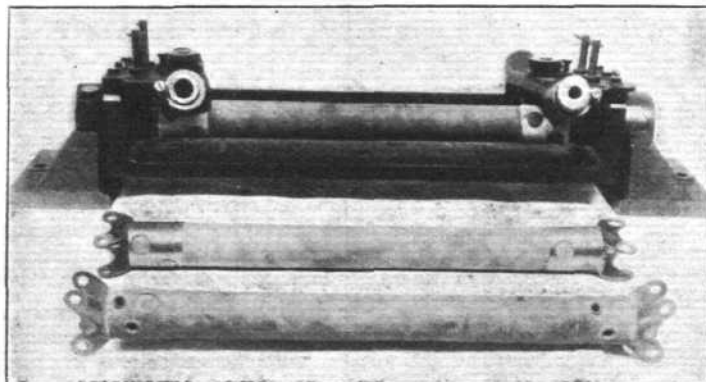
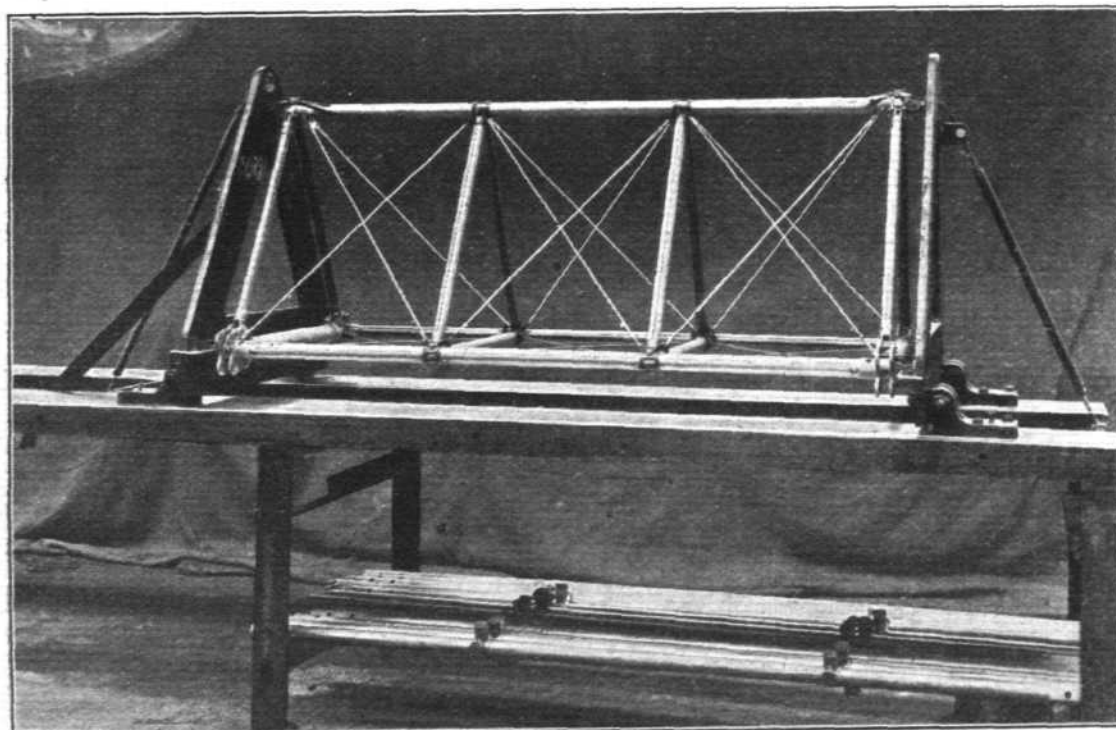
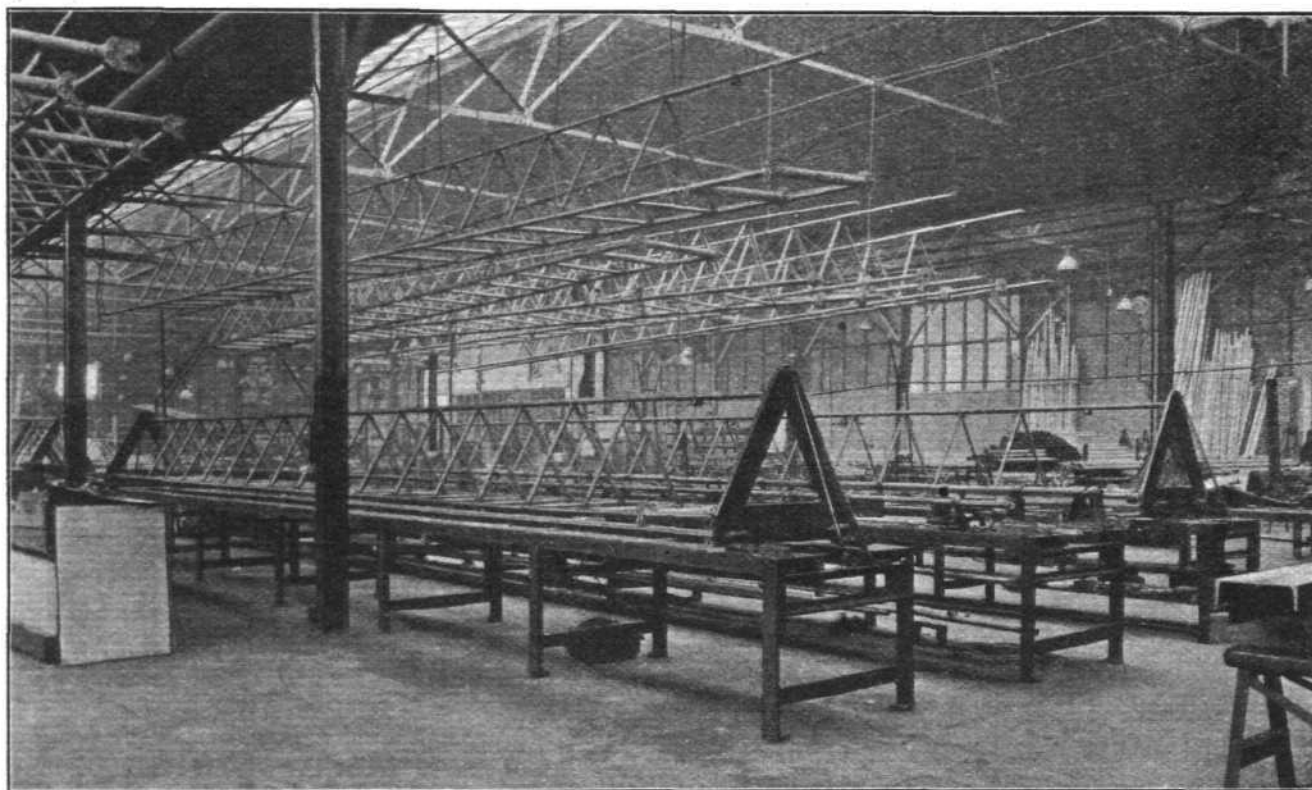

Fig. 19. Base struts for frame longitudinals. In jig, with fork ends loose, and with shear bushes in place.
Fig. 26. Assembly jig for frame longitudinals.
Fig. 27. General view of main longitudinal in jig. Other longitudinals ready for trueing.
**Base Struts.**—These occur at each end of the frame longitudinals, in the base of the triangle, and also form the third side of the triangle of which the other two sides are formed by the main radial struts. In other words, the base struts form the common base of the frame longitudinal triangle and the radial struts triangle. They can be seen in the photograph of the assembly jig for frame longitudinals (Fig. 26), and in more detail in Fig. 19, which shows one of the struts with fork ends loosely in place, in the jig, and finished with shear bushes in place. The method adopted in producing these struts is to finish the fork ends and then hold the tube with the fork ends in a special jig, drilling and reaming for shear bushes in this jig.
on steel benches. The fittings on the end of the jig plates are set out to the standard triangular section of the longitudinals, and the distances between these plates are determined by rod end measurements. The inclination of the end plates to the vertical is determined by careful plumb line measurements. The booms forming the longitudinals are cut to length, and have the fork ends inserted in jigs specially made for this purpose. The method adopted in all cases for drilling these longitudinals was that of finishing the fork ends, then holding the fork ends and booms in correct position in the jigs, and drilling through the fork end and tube while in the jig. The whole of the longitudinals are cambered, and the cambers are set in the final assembly jigs by tensioning the bracing wires and taking measurements from the bench at different points. A frame longitudinal is seen in its assembly jig in Fig. 26, and a main longitudinal in Fig. 27.